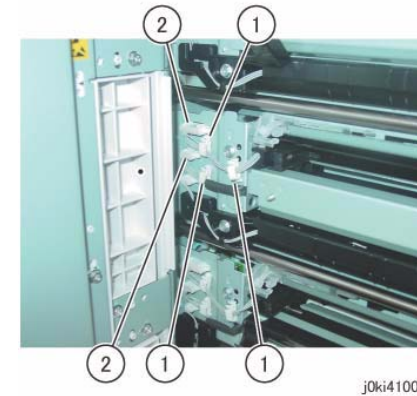

Figure 2 Disconnect the connectors
6. Disconnect the connector. (Figure 2)